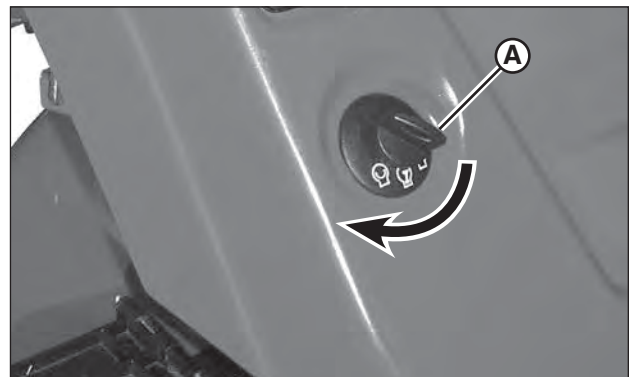

Figure 7: Ignition key
6. Insert the ignition key (A, Figure 7) into the ignition switch. Turn the key to the START position until the engine starts.